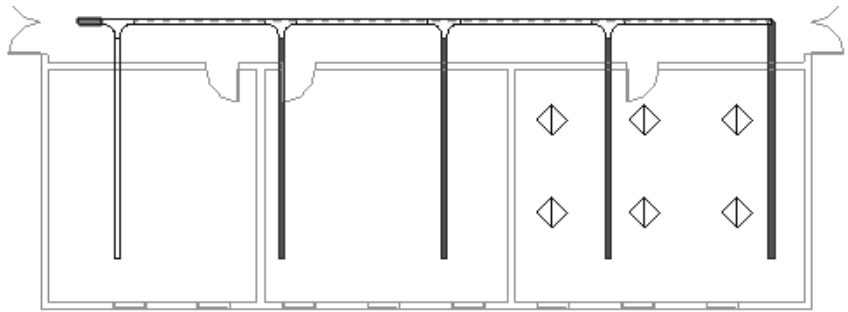

Figure 2–92
9. The cable trays are extended and fittings applied, as shown in Figure 2–92. The last cable tray does not clean up, use the  (Trim/Extend to Corner) command to finish it.